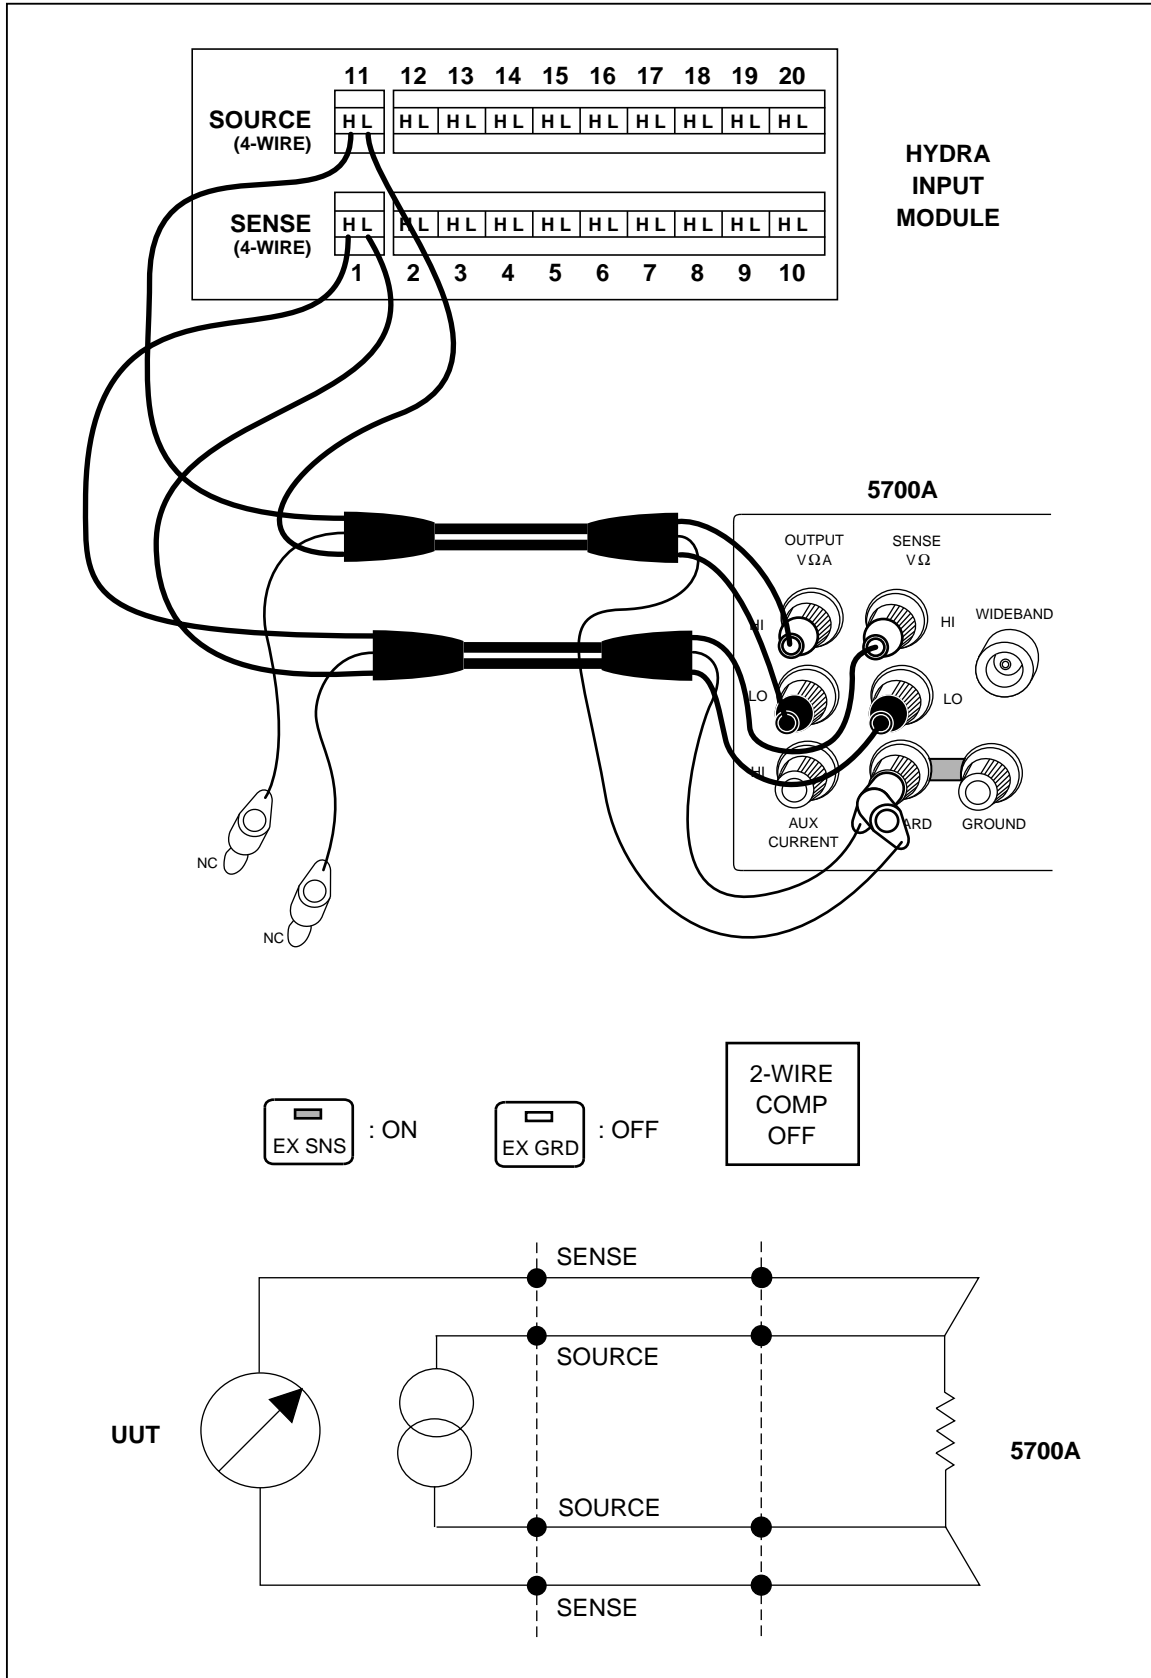

Figure 7-2. Four-Terminal Connections to 5700A
3. Observing polarity connect channel 1's test leads to the Sense HI and LO terminals of the 5700A, and connect channel 11's test leads to the Output HI and LO terminals of the 5700A. Connect as shown in Figure 7-2.